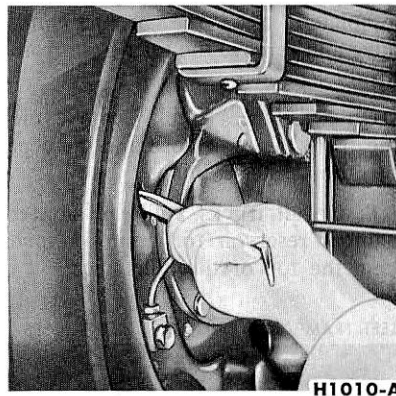

FIG. 5—Two-Cylinder Brake Shoe Adjustment
1. Remove the adjusting slot covers from the carrier plate (Fig. 5).